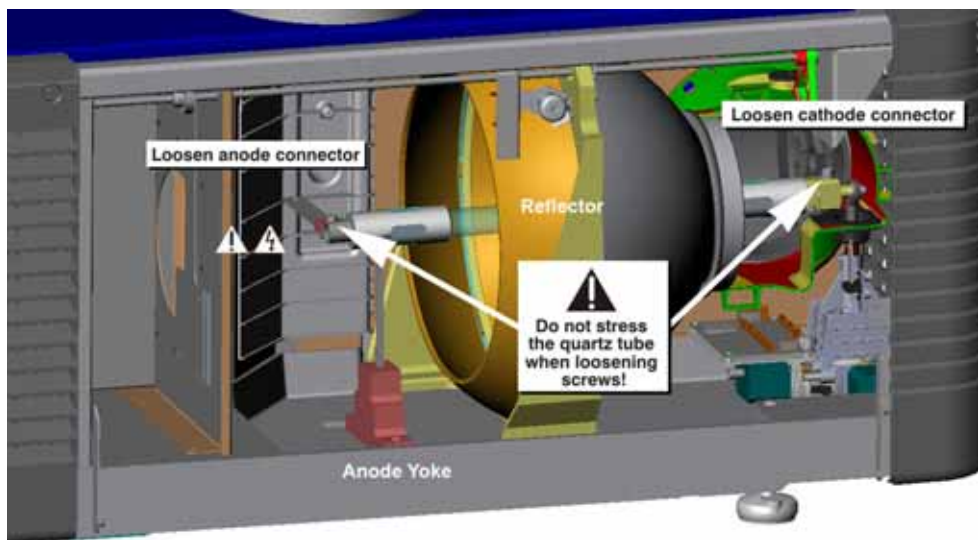

Figure 7-1 Removing the Lamp
5. Loosen set screws from the negative cathode and the positive anode lamp connectors. Make sure to apply minimal torque and **DO NOT STRESS** the quartz tube. (**Figure 7-1**).